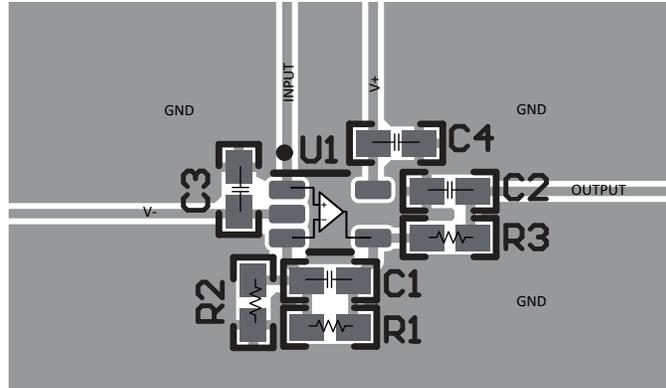

图 7-4. Operational Amplifier Board Layout for Noninverting Configuration - SC70 (DCK) Package
- Place the external components as close to the device as possible. As shown in 图 7-4, keeping RF and RG close to the inverting input minimizes parasitic capacitance.